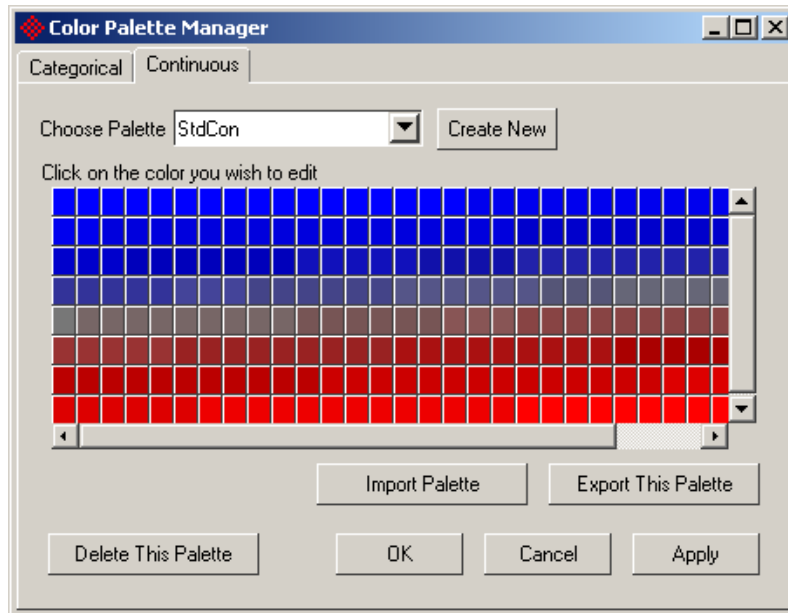

Figure 4. 32: The Color Palette Manager
- Specify a name for the new palette (e.g. Blue-White-Red), specify the *Palette Size* as **256**, *Interpolation Points* as **3**, and then choose colors for the three bars (Figure 4. 33)